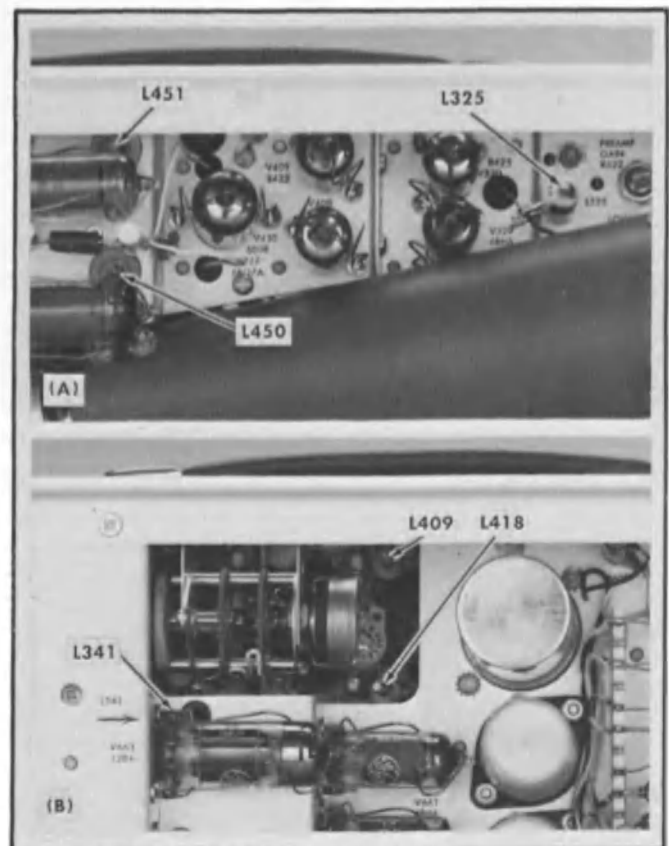

Fig. 5-14. Location of high-frequency compensation adjustments. (A) Left side, (B) right side.
f. ADJUST—L409, L418, L450 and L451 (see Fig. 5-14) for best square-wave display. L409 and L418 affect the leading edge of the square wave and L450 and L451 affect the area just following the leading edge. Adjust L409 and L418 so the slugs in the coils are in about the same positions. L450 and L451 may provide best response in either of two positions; the desired adjustment is with the slugs in most of the way and in about the same positions. The top of the waveform will not necessarily be flat when final adjustment is achieved. The desired adjustment should provide the best risetime with the flattest waveform top.
d. ADJUST—L325 and L341 (see Fig. 5-14) for best square wave display. Adjust for the best risetime with the flattest waveform top. L341 affects the leading edge and L325 affects the general level of the waveform top.